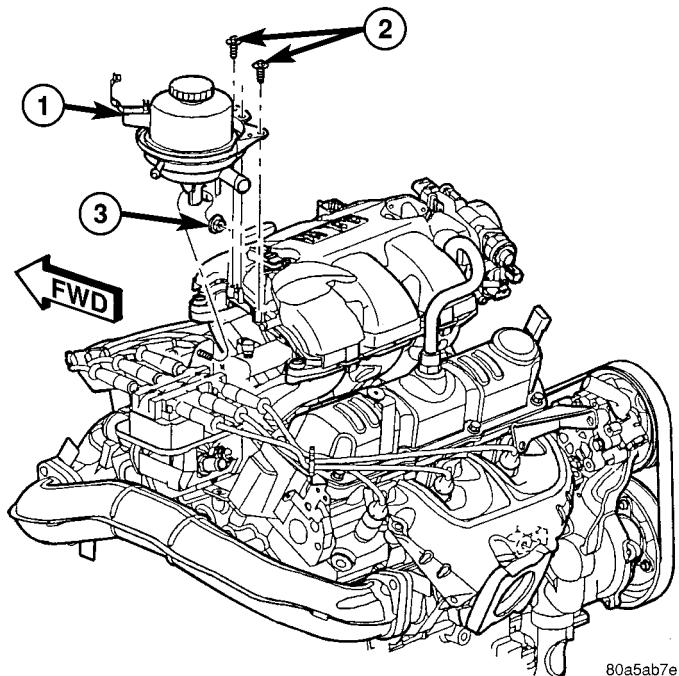

Fig. 116 POWER STEERING FLUID RESERVOIR
(10) Remove the power steering reservoir attaching bolts and only loosen the nut (Fig. 116). Lift reservoir up to disengage lower mount from stud. Set reservoir aside. **Do not** disconnect hose.
- (7) Install the power steering reservoir (Fig. 116). Tighten screws to manifold to 5.6 N·m (50 in. lbs.).
- (8) Connect throttle and speed control cables to throttle body (Refer to 14 - FUEL SYSTEM/FUEL INJECTION/THROTTLE CONTROL CABLE - INSTALLATION)
- (9) Attach make up air hose clip into the hole in the throttle cable bracket.
- (10) Connect the wiring connectors to the throttle position sensor (TPS) and Automatic Idle Speed (AIS) motor.
- (11) Install air cleaner and air inlet hose assembly.
- (12) Connect the inlet air temperature (IAT) sensor electrical connector.
- (13) Connect battery negative cable.